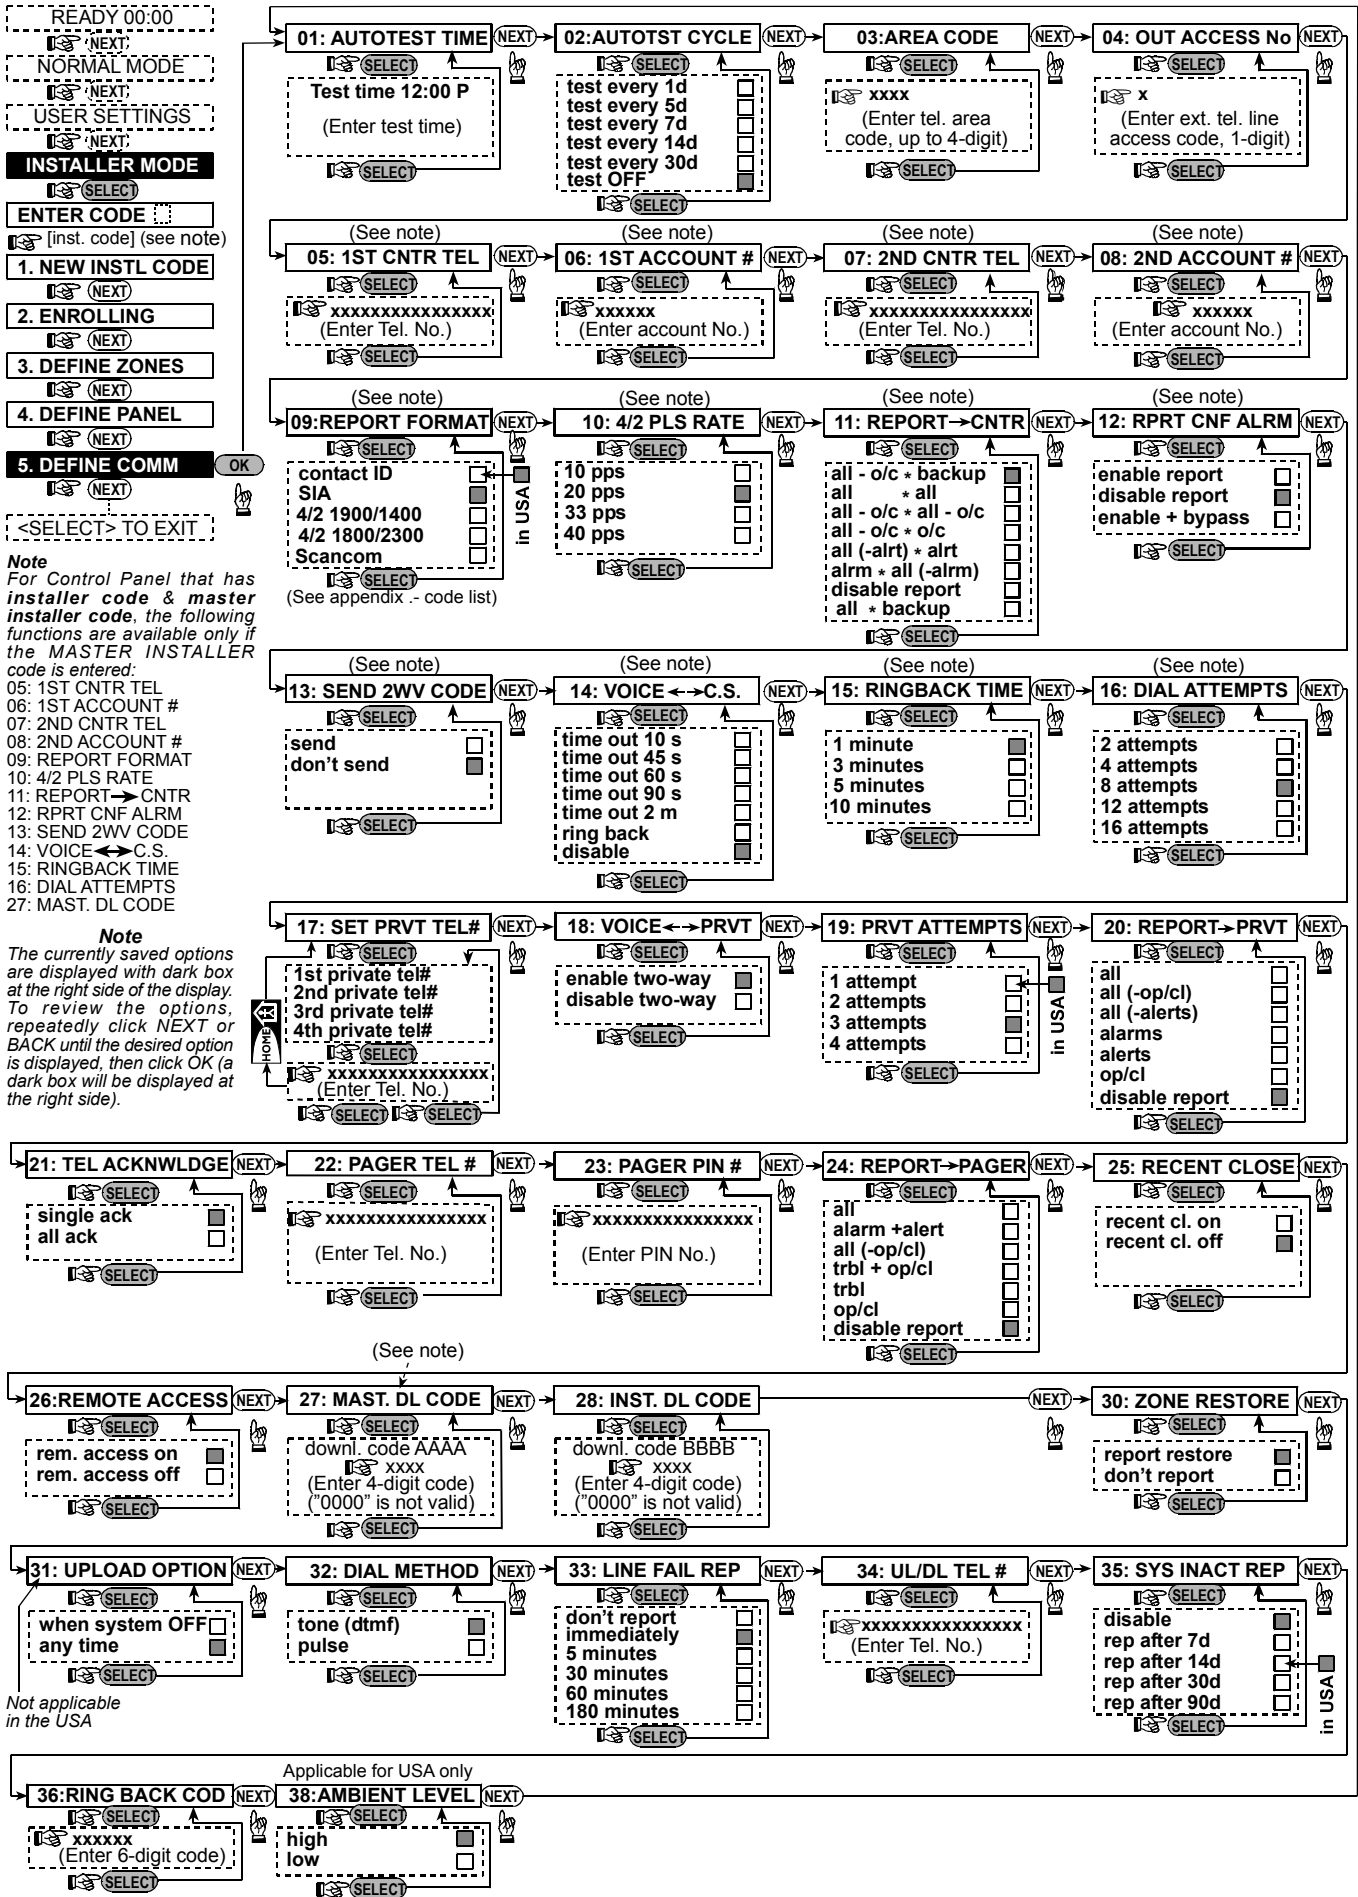

Figure 4.5 - DEFINE COMM Flow Chart
4.5.1 Autotest Time (fig. 4.5, location 01)
4.5.2 Autotest Cycle (fig. 4.5, location 02)
4.5.3 Area Code (fig. 4.5, location 03)
4.5.4 Out Access No (fig. 4.5, location 04)
4.5.5 First Central Station Tel. (fig. 4.5, loc. 05)
Here you program telephone number of the 1st central station (including area code, 16 digit max) to which the system will report the event groups defined in memory location 11 (see note in fig. 4.5).
4.5.6 First Account No. (fig. 4.5, location 06)
Here you enter number that will identify your specific alarm control system to the first central station. The number consists of 4 or 6 hexadecimal digits (see note in fig. 4.5).
4.5.7 2ND Central Station Tel. (fig. 4.5, loc. 07)
Here you program telephone number of the 2nd central station (including area code, 16 digit max) to which the system will report the event groups defined in memory location 11 (see note in fig. 4.5).
4.5.8 Second Account No. (fig. 4.5, loc. 08)
Here you enter number that will identify your system to the 2nd central station. The account number consists of 4 or 6 hexadecimal digits (see note in fig. 4.5).
4.5.9 Report Format (fig. 4.5, location 09)
Here you select the reporting format used by the control panel to report events to central stations (see note in figure 4.5).
4.5.10 4/2 Pulse Rate (fig. 4.5, location 10)
Here you select the pulse rate at which data will be sent to central stations if any one of the 4/2 formats has been selected in Location 09 REPORT FORMAT (see note in fig. 4.5). The options are: **10, 20, 33** and **40** pps.
(fig. 4.5, location 11) (see note in fig. 4.5).
4.5.12 Report CNF Alarm (fig. 4.5, location 12)
Here you determine whether the system will report whenever 2 or more events (**confirmed alarm**) occur during a specific period (see par. 4.4.32 and note in figure 4.5).
4.5.13 Send 2WV Code (fig. 4.5, location 13)
Here you determine whether the system will send two-way voice code to the central station (to turn the central station from data communication to voice communication state) by using pre-selected SIA or Contact-ID communication format only (see note in fig. 4.5). Options: **send** and **don't send**.
(fig. 4.5, loc. 14). (See note in fig. 4.5).
4.5.15 Ring Back Time (fig. 4.5, location 15)
- The options are: **1, 3, 5** or **10** min. (see note in fig. 4.5).
4.5.16 Dialing Attempts (fig. 4.5, location 16)
Here you determine how many times the communicator will dial the central station's number. (see note in fig. 4.5).
4.5.17 Set Private Tel. No. (fig. 4.5, location 17)
4.5.18 Two-Way Voice - Private Phones (fig. 4.5, location 18)
4.5.19 Private Tel. Dialing Attempts (fig. 4.5, location 19)
4.5.20 Reporting to Private Telephones (fig. 4.5, location 20)